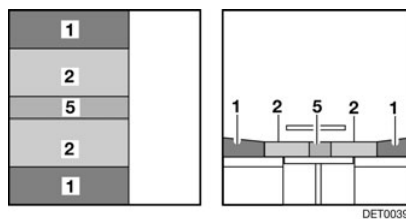

Fig. 40 After conversion
- Fold up the lower part of one of the seat cushions (Fig. 40,2) and place the seat cushion against the wall.
- Insert the back cushions (Fig. 40,1) between the seat cushions and the wall.
- Insert the additional cushion (Fig. 40,5) between the back cushions and the wall.